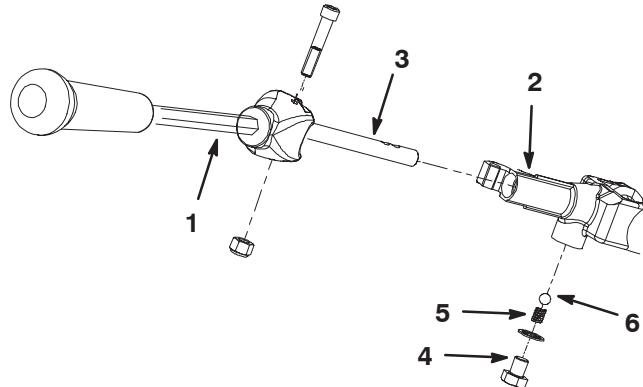

Figure 2
- Remove the screw and washer securing the pin of the traction control rod handle to the traction control (Fig. 2). When removing the screw and washer from lever, make sure to account for the detent ball and spring which will fall out of the lever.
- Remove the socket head screw and nut mounting the traction control rod handle to the traction control lever (Fig. 2).
23. Insert the detent ball and spring inside the traction control lever. Mount the traction control rod handle to the traction control lever with the socket head screw and nut previously removed (Fig. 2).
24. Secure the pin of the traction control rod handle to the traction control with the screw and washer previously removed (Fig. 2).